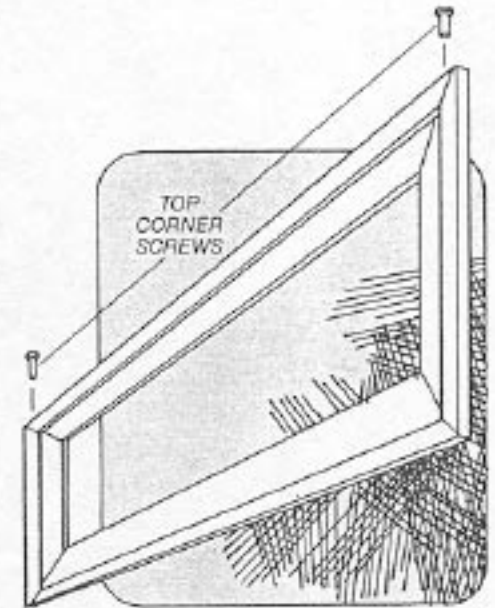

Figure 21
B) Remove the top two corner screws and pull away the top frame. See Figure 21.